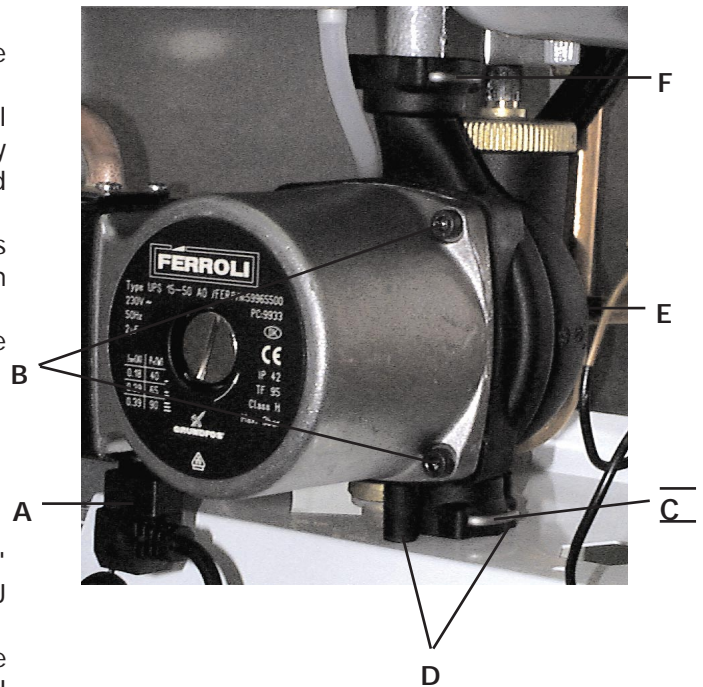

Fig. 39
7.14 Pump (fig. 39)
Replacement of pump body (fig. 39)